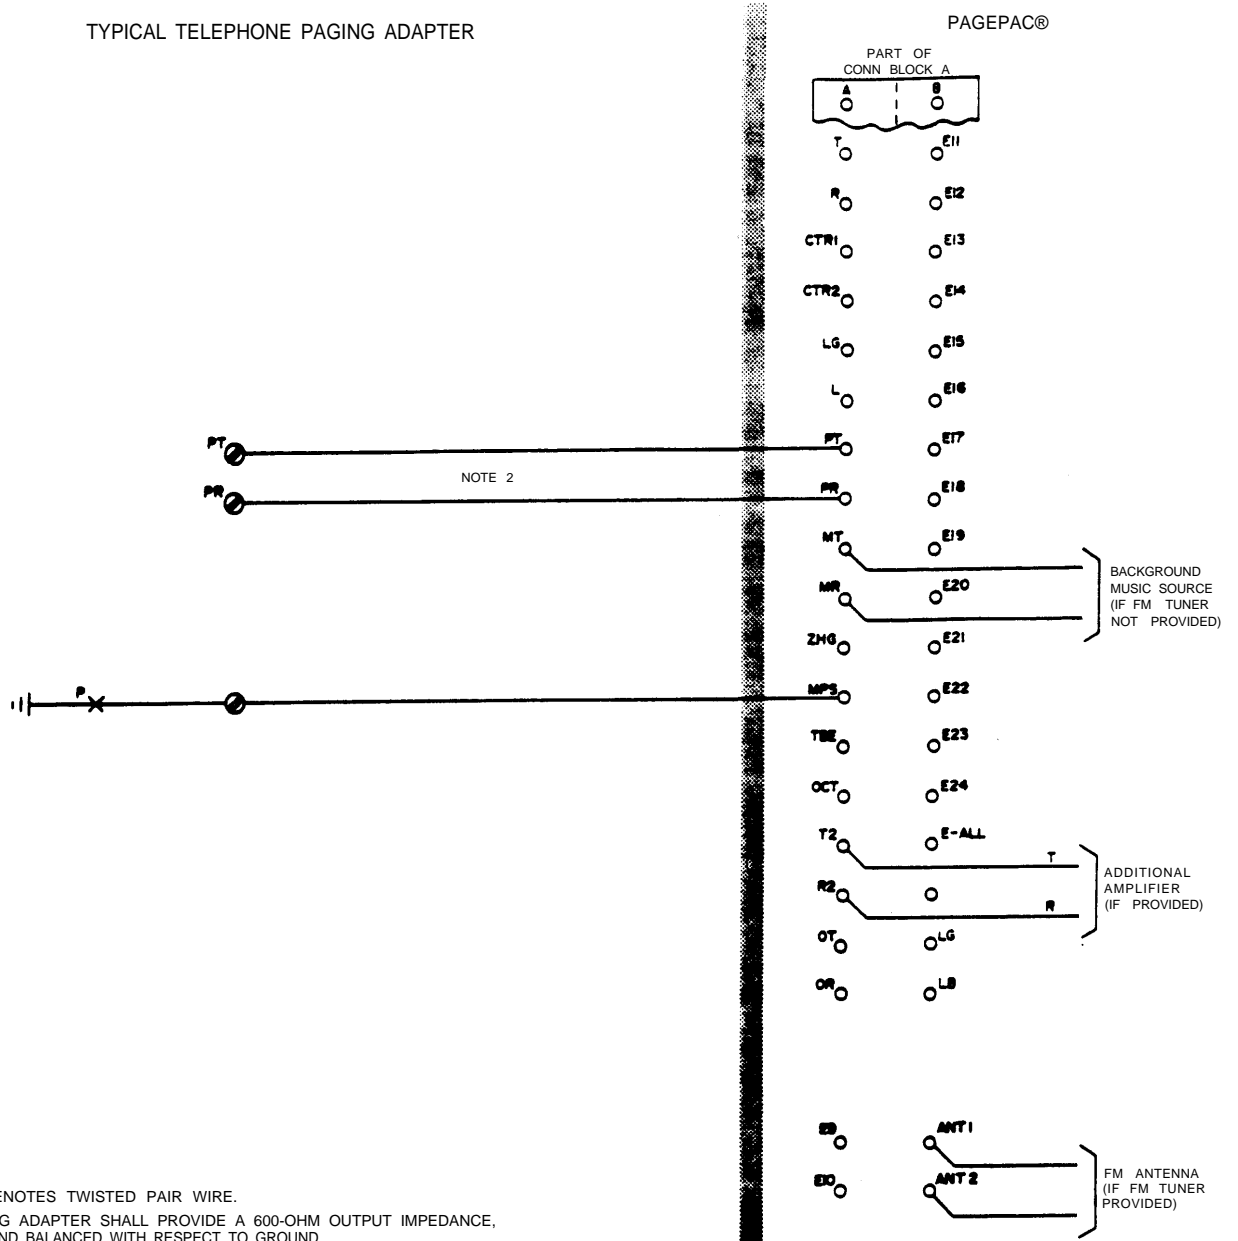

Fig. 18—Connections for Paging Adapter Access
5.04 *Paging Adapter Access:* If the paging system is to be connected to a PABX or key system paging adapter and the Type C Applique will not be provided, perform the connections of Fig. 18. This arrangement does not offer zone paging.